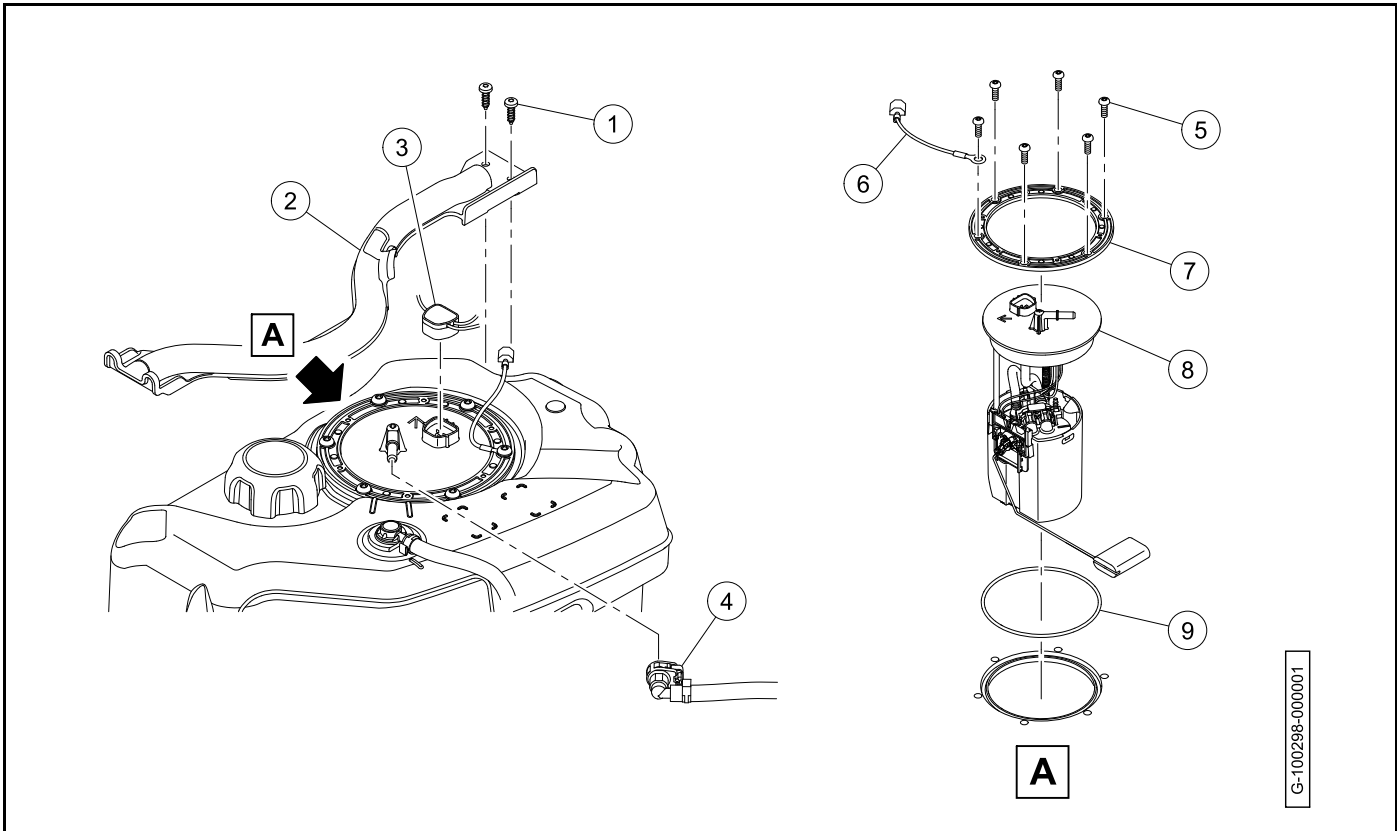

Figure 22-19 Fuel Pump Module Removal
5. Remove the screws (1) (Figure 22-19, Page 22-18).